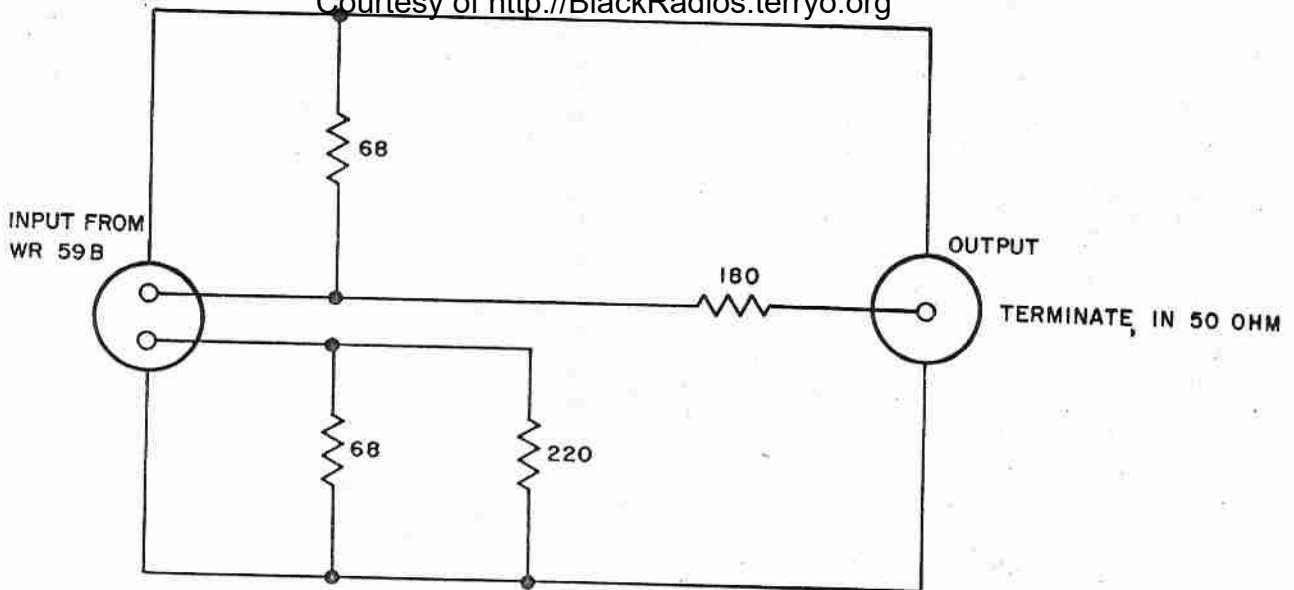

Fig. 4-3. Balance to Unbalance Converter, Schematic Diagram
- (1) Remove crystal.
- (2) Couple sweep (1) and marker (6) generators into pin 7 of V-206. Use balance-to-unbalance converter (Fig. 4-3) and a length of RG55/U cable terminated in 50 ohms.
- (3) Connect oscilloscope (3) to test point TP-206 in grid circuit of V-205.
- (4) Tune primary and secondary for overcoupled response with a peak-to-peak bandwidth of about 15 mc.
- (2) Couple sweep (1) and marker (6) generators into pin 1 of V-205. Use balance-to-unbalance converter (Fig. 4-3) and a length of RG55/U cable terminated in 50 ohms.
- (3) Connect oscilloscope (3) to test point TP-205 in grid circuit of V-204.
- (4) Tune primary and secondary for overcoupled response with a peak-to-peak bandwidth of about 11 mc.
- (4) Observed response should have a 3-db bandwidth of about 17 mc and a 45% dip.